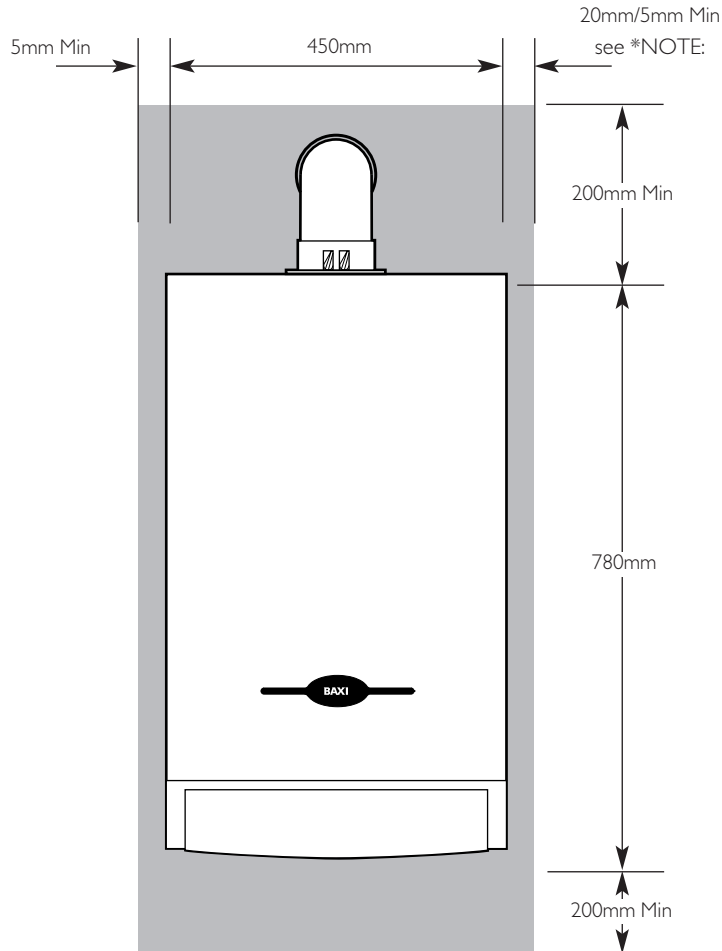

Fig. 23
4.1 Clearances around the Boiler (Figs. 23 & 24)